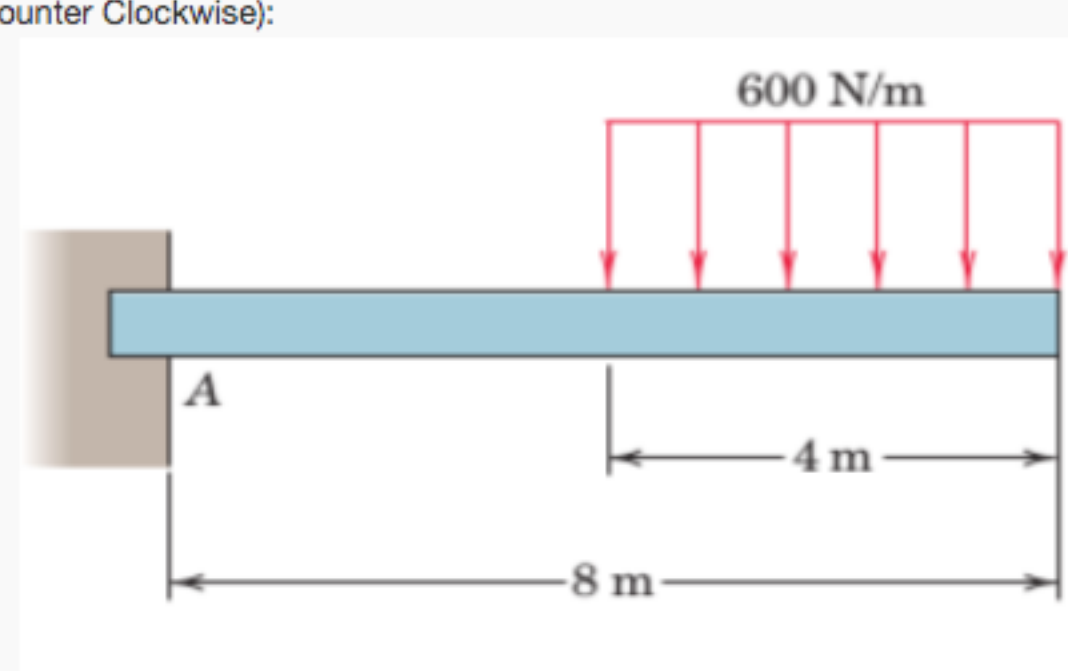

Figure 1: Figure for question No.1
1) The supporting force R_A and moment M_A at A for the loaded cantilever beam as shown in Figure 1 are (CW stands for Clockwise and CCW stands for Counter Clockwise): **1 point**